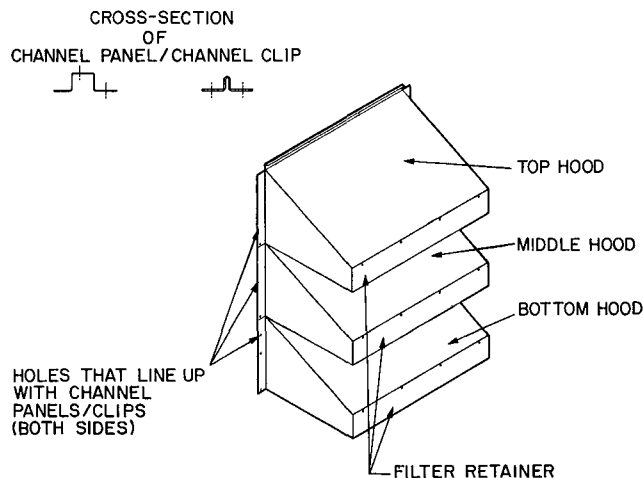

Fig. 10 – Economizer Hood Assembly Holes
- 2 channel panels } See Fig. 10 for cross-section
7. See Fig. 10 and insert the capscrew bolts through the flange holes as shown, from the back side, threads facing outward. Note that though there are 12 holes (4 per hood) per side, only the 3 shown per side are to be used.